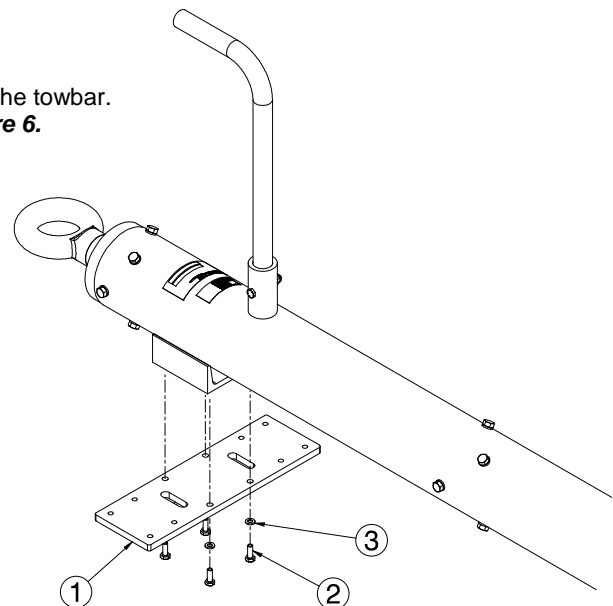

FIGURE 7
Using the (4) ¼ - 20 x ¾ inch long bolts (Item 2) and lockwashers (Item 3) provided in the kit, attach the caster plate weldment (Item 1) to the towbar. **Reference Figure 7.**